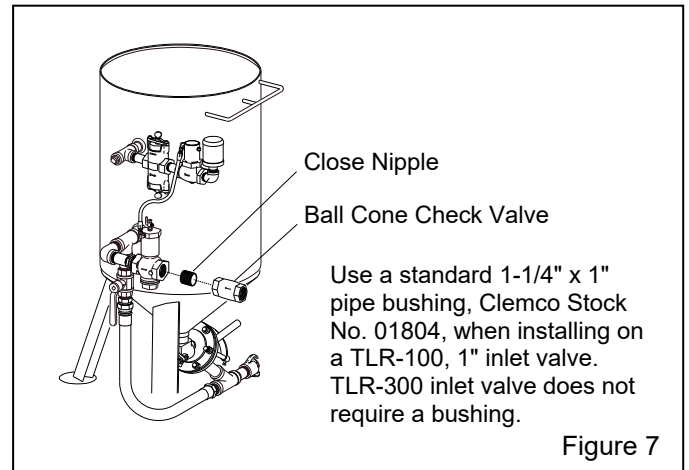

Figure 7
2.2.1 Where multiple blast machines are operating from a single air source, install a ball cone check valve at the air supply on each machine. Refer to the illustration in Figure 7 to install a check valve on a blast machine.